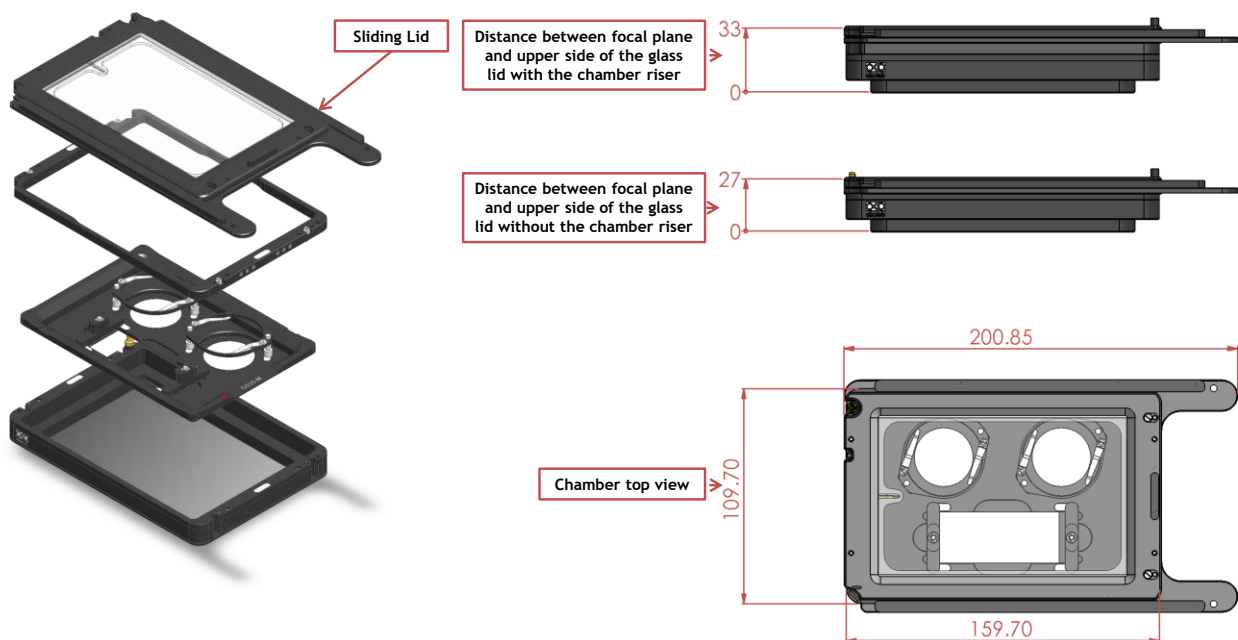
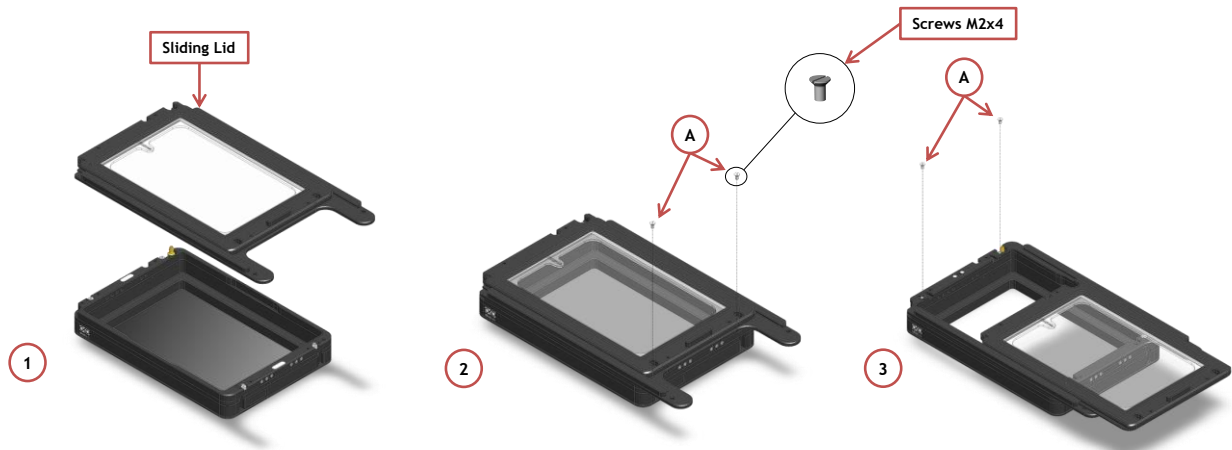

Figure 3. H301-K-FRAME (Sliding Lid comes as standard)
Figure 4. Assembly of the sliding lid
Figure 3 shows chamber dimensions with the Sliding Lid (with and without chamber riser). Figure 4 illustrates how to remove Sliding Lid, when a different Lid is necessary.
**NOTE: Sliding Lid MUST BE REMOVED when using any other Lid.** The Sliding Lid is fixed onto the chamber with 4 screws. Screws location is indicated by letter A in Figure 4 (image 2 and 3). Keep Sliding Lid fully closed to access screws labeled A in image 2. Open Sliding Lid to access screws labeled A in image 3.